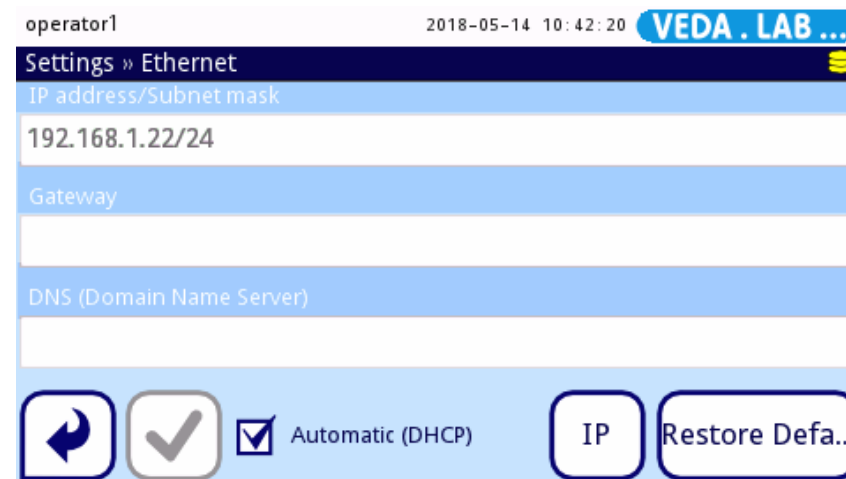

Figure 51: The **Settings>Ethernet** screen. See section 11.7 for details
- 2 On the **Settings** screen, tap the **Ethernet** button (labelled 11 in Figure 42) to access the Ethernet settings (Cf. Figure 51).